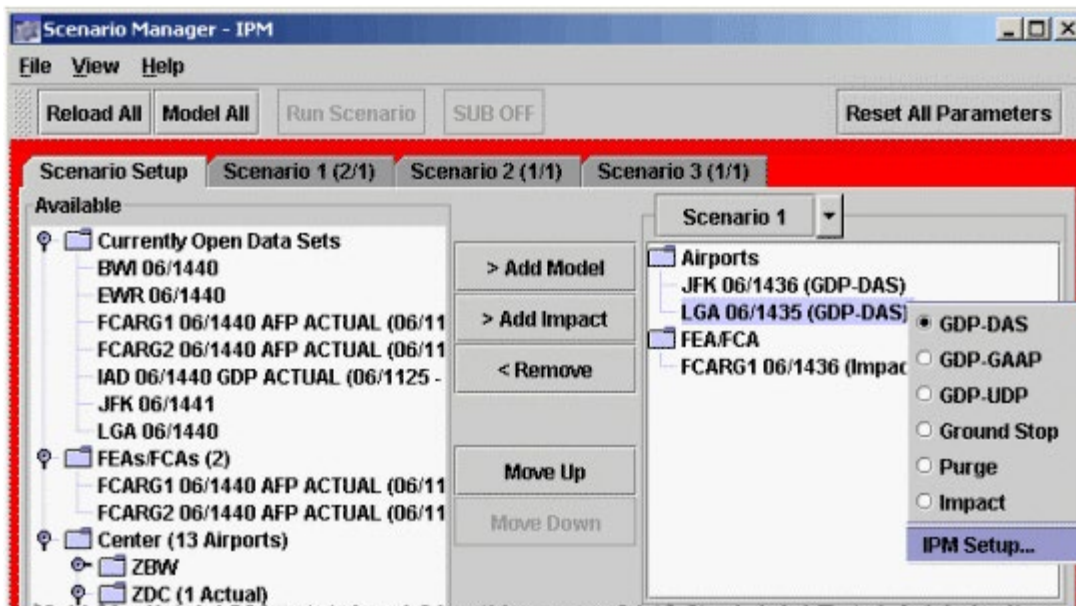

Figure 3-104: Right-click Element in Scenario Box to Open IPM Setup
1. On the Scenario Setup tab, right-click an element in a Scenario box, and select **IPM Setup...** from the menu options (see Figure 3-104).